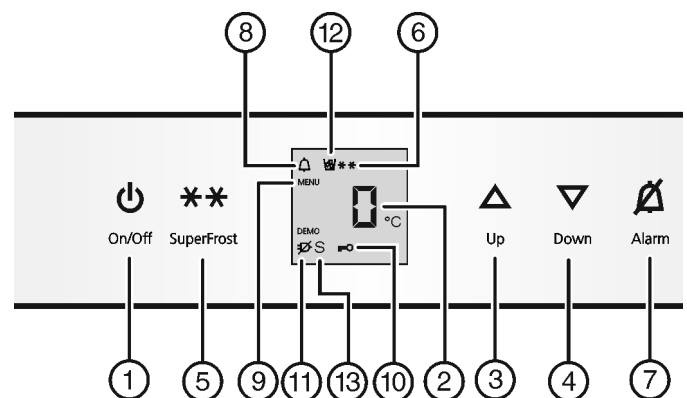

Fig. 2
- ▶ Press On/Off button *Fig. 2 (1)*.
- ▶ Activate setting mode: Press SuperFrost button *Fig. 2 (5)* for about 5 seconds.
- ▷ The Menu symbol *Fig. 2 (9)* lights up.
- ▶ Using Up button *Fig. 2 (3)* Down button *Fig. 2 (4)* select °F.
- ▶ To confirm: Briefly press SuperFrost button *Fig. 2 (5)*.
- ▶ Using Up button *Fig. 2 (3)* Down button *Fig. 2 (4)* select °C.
- ▶ To exit setting mode: Press On/Off button *Fig. 2 (1)*.
- ▶ Activate setting mode: press and hold the SuperFrost button *Fig. 2 (5)* for approximately 5 s.
- ▶ Using the Up button *Fig. 2 (3)* or Down button *Fig. 2 (4)*, select c.
- ▶ Press the SuperFrost button *Fig. 2 (5)* briefly to confirm. When cl is shown on the display:
- ▶ To switch on the child-proof lock, press the SuperFrost button *Fig. 2 (5)* briefly.
- ▷ The Child safety symbol *Fig. 2 (10)* lights up. c flashes on the display. When c0 is shown on the display:
- ▶ To switch off the child-proof lock, press the SuperFrost button *Fig. 2 (5)* briefly.
- ▷ The Child safety symbol *Fig. 2 (10)* goes out. c flashes on the display.
- ▶ Deactivate setting mode: press the On/Off button *Fig. 2 (1)*.
- ▶ Press Alarm button *Fig. 2 (7)*.
At the same time, the Alarm symbol *Fig. 2 (8)* will flash.
The audible warning automatically ceases, the Alarm symbol *Fig. 2 (8)* goes out, and the temperature display stops flashing when the temperature is cold enough again.
▶ To activate setting mode: Press and hold the SuperFrost button *Fig. 2 (5)* for approx. 5 s.
▷ The Menu symbol *Fig. 2 (9)* lights up.
▶ To access the Sabbath mode function: Briefly press the SuperFrost button *Fig. 2 (5)*.
▶ **To turn on** Sabbath mode, briefly press the SuperFrost button *Fig. 2 (5)*.